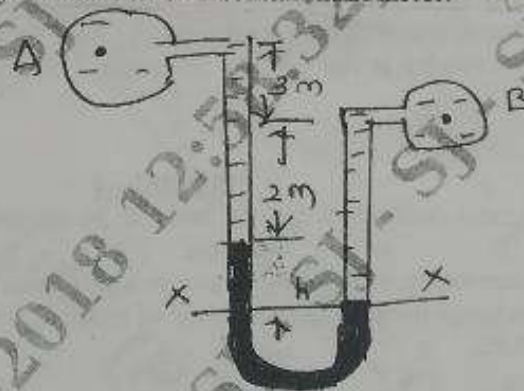

Fig.Q.2(c)
c. A differential manometer is connected at the two points A and B of two pipes as shown in Fig.Q.2(c). The pipe A contains a liquid of sp.gr = 1.5 while pipe B contains a liquid of sp.gr = 0.9. The pressures at A and B are $9.81 \times 10^4 \text{ N/m}^2$ and 17.65 N/m^2 respectively. Find the difference in mercury level in the differential manometer. (06 Marks)